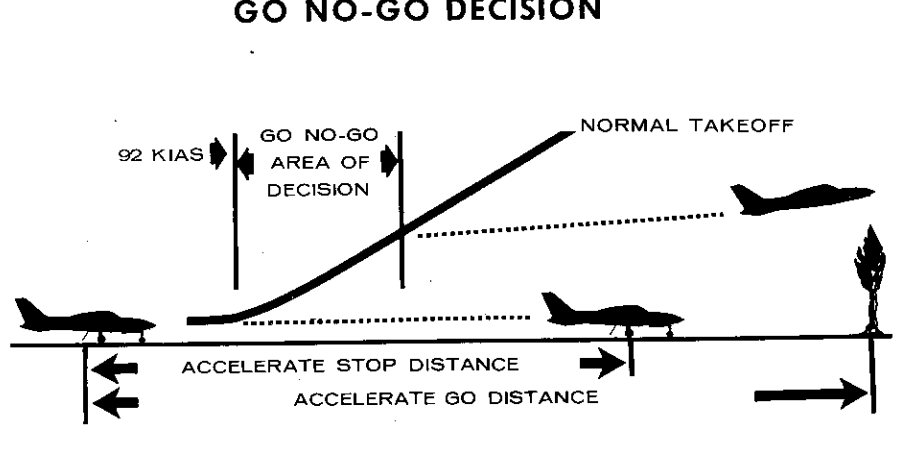

Figure 3-2
Fortunately, the airplane accelerates through this "area of decision" in just a few seconds. However, to make an intelligent decision in this type of emergency, one must consider the field length, obstruction height, field elevation, air temperature, headwind, and takeoff weight. The flight paths illustrated in Figure 3-2 indicate that the "go no-go area of decision" is bounded by: (1) the point at which 92 KIAS is reached and (2) the point where the obstruction altitude is reached. An engine failure in this area requires an immediate decision. Beyond this area, the airplane, within the limitations of single-engine climb performance shown in Section 5, may be maneuvered to a landing back at the airport.